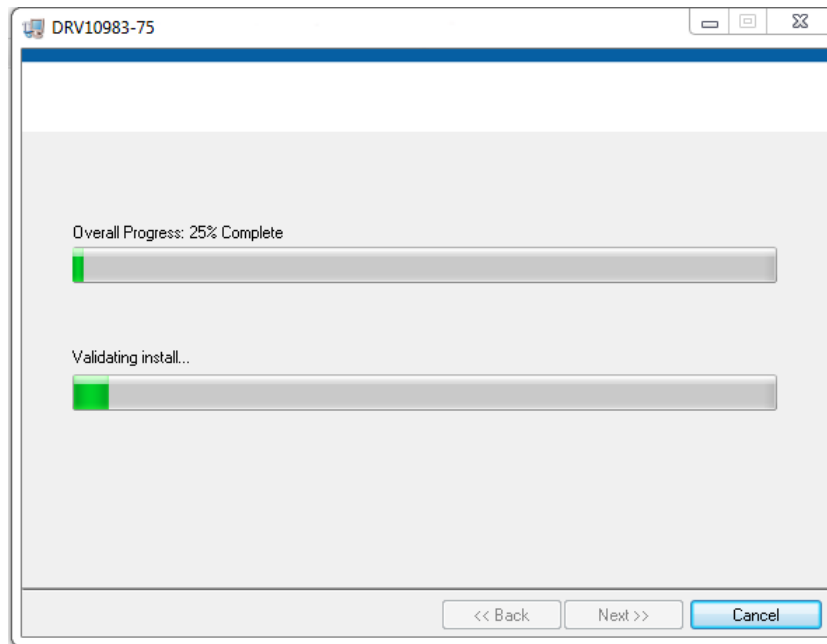

Figure 15. GUI Installation in Progress
- The installer begins self-extraction and proceeds with the installation as shown in Figure 15.